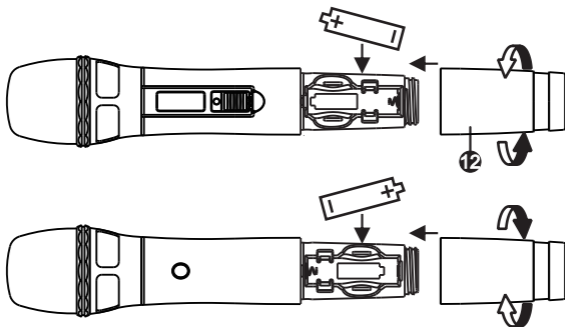

Fig. 2
1. ACT-24H/31H/32H/32HR/33H/58H, Fig. 2:
- (A) Gently twist and remove the Rear Cover ⑫ counterclockwise.
- (B) Insert two new AA alkaline batteries in the battery compartment with correct polarity orientation.